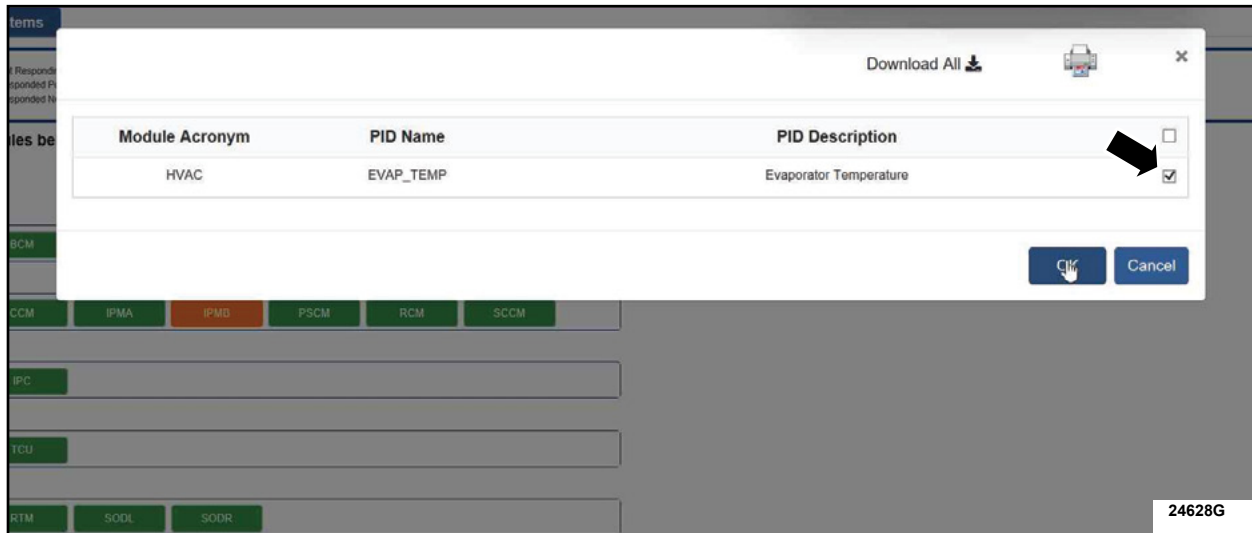

FIGURE 8
17. Check the **EVAP_TEMP** box and click **OK**. See Figure 8.